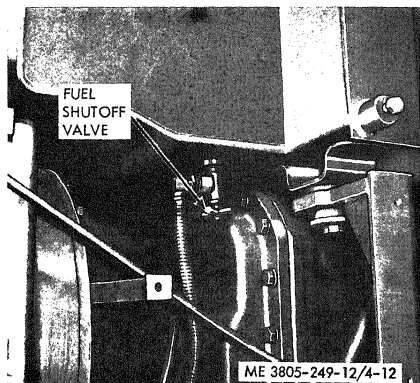
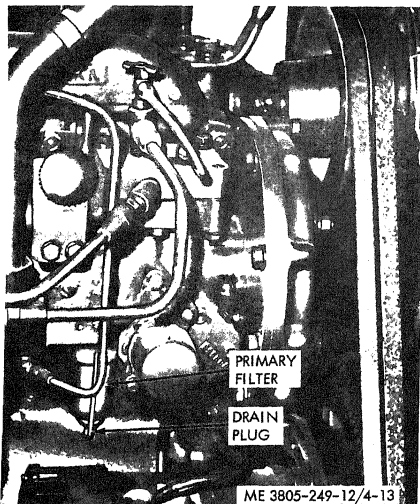
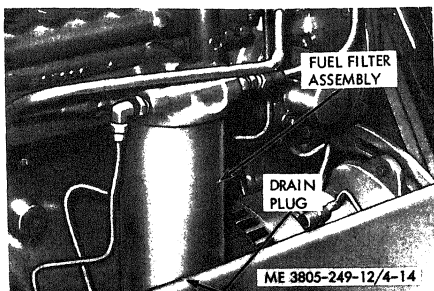

Figure 4-12. Fuel shutoff valve.
Figure 4-13. Primary fuel filter.
Figure 4-14. Secondary fuel filter.
(a) Close the fuel shutoff valve (fig. 4-12) located under the fuel tank on the right side of the vehicle.
(b) Remove the filter bowl and element (fig. 4-13).
(a) Close the fuel shutoff valve (fig. 4-12). Remove the drain plug and allow the filter (fig. 4-14) to drain.
b. Primary Fuel Filter Replacement. Refer to figure 4-13.
(1) Remove the clamp and unscrew the filter.
(2) Install a new filter.
c. Secondary Fuel Filter Replacement. Refer to figure 4-14.
(1) Close the fuel shutoff valve (fig. 4-12).
(2) Remove the plug at the bottom of the filter housing and allow to drain.
(3) Disconnect the fuel lines at the filter base. Cap or plug openings.
(4) Remove two bolts, lockwashers and nuts securing the filter assembly to the mounting bracket, and remove the filter assembly.
(5) Install a new filter assembly and gasket in the reverse order of removal.
(6) Open the fuel shutoff valve and prime the fuel system (para 3-10).